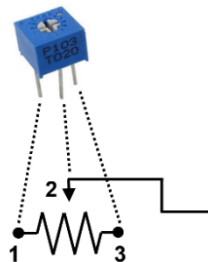

Figure 4: Pin layout of variable resistor.
2. After determining the required resistance values for  $R_R$ ,  $R_B$ , and  $R_G$ , you will construct the circuit, using the three  $2\text{ k}\Omega$  variable resistors to obtain  $R_R$ ,  $R_B$ , and  $R_G$ . The pin layout of the variable resistor is shown in Figure 4 below. The resistance between pins 1 and 3 is fixed at  $2\text{ k}\Omega$ . Pin 2, on the other hand, is connected internally to a part that slides between pins 1 and 3 when you rotate the white circular disc on top using the trimming tool (from your toolkit box). To use it as a variable resistance that you can tune, you can choose to use either (i) pins 1 and 2 only, or (ii) pins 2 and 3 only. Suppose we use pins 1 and 2 only, and leave pin 3 disconnected (unused). You can now turn the white disc to vary the resistance between pins 1 and 2 to obtain any desired value between 0 and  $2\text{ k}\Omega$ !